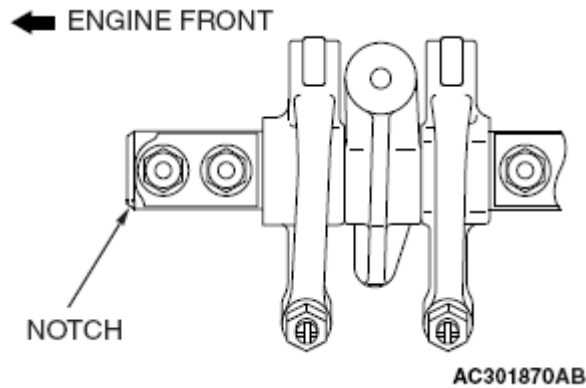

Fig. 54: Pulling Camshaft & Camshaft Sprocket Assembly
3. With the timing chain tensioner unlocked, insert special tool MB992103 inside the timing chain case assembly along the tension side of the timing chain until the insertion guide line aligns with the upper surface of the timing chain case assembly (**Fig. 54**).
4. With the special tool MB992103 inserted up to the insertion guide line, press the special tool MB992103 against the intake side camshaft sprocket (**Fig. 54**) and spread and hold the timing chain tension side guide (**Fig. 54**).
6. Pull up the camshaft and camshaft sprocket assembly (exhaust side) mounting area of the timing chain (**Fig. 54**) to provide allowance for easy installation of the camshaft and camshaft sprocket assembly (exhaust side) to the timing chain.